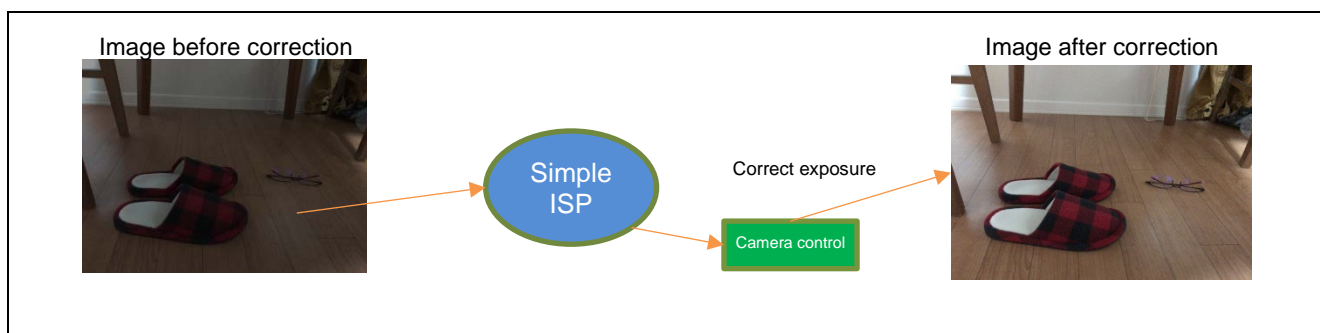

Figure 4.3 Lightness integrating process
4.2.2 Auto Exposure Correction (AE)
Auto Exposure correction (AE) controls the exposure of the camera (shutter speed and camera gain) based on the color component accumulated value of the output from Simple ISP (Figure 4.3).